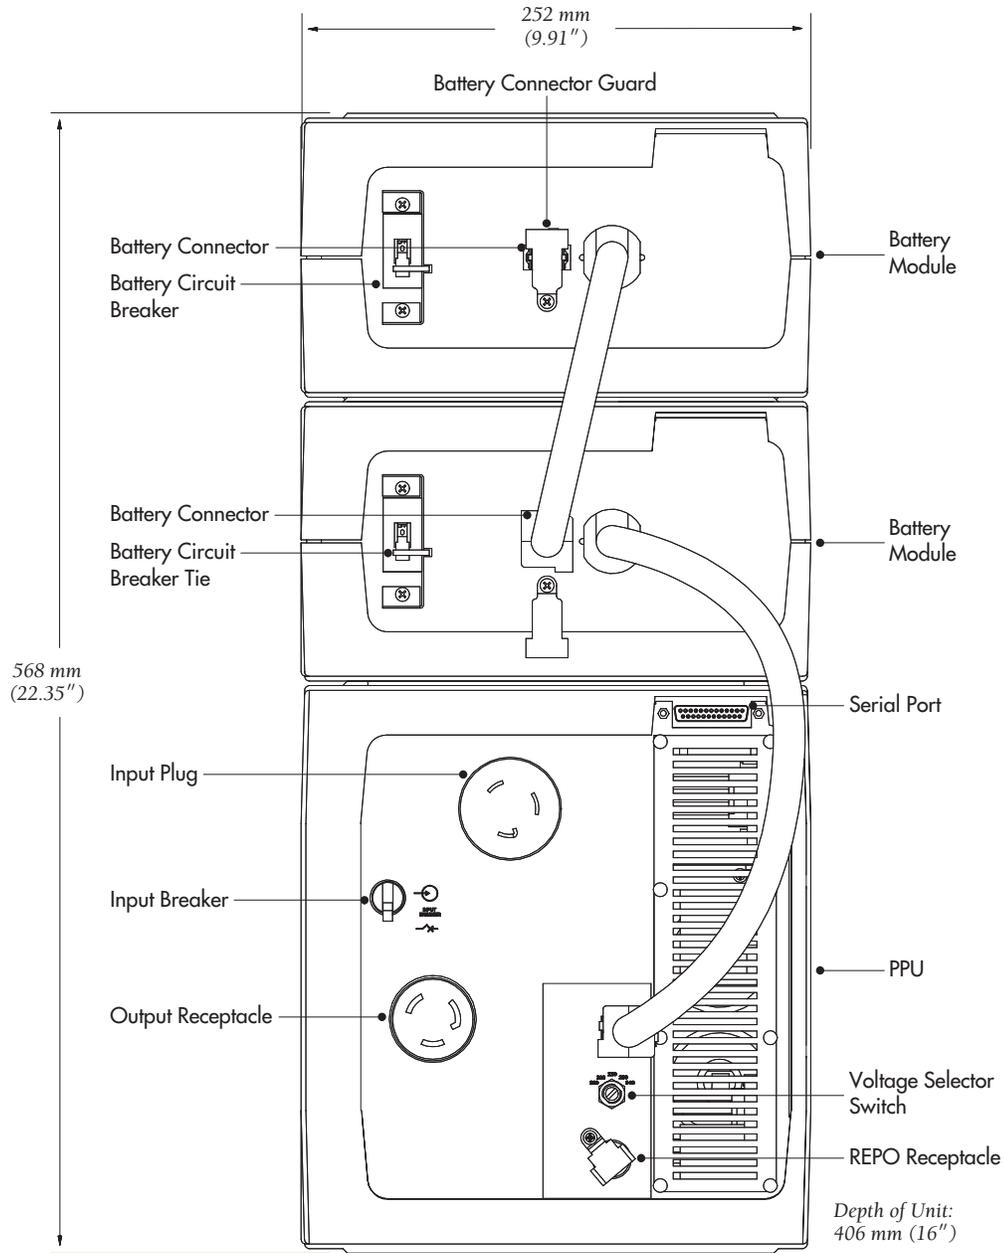
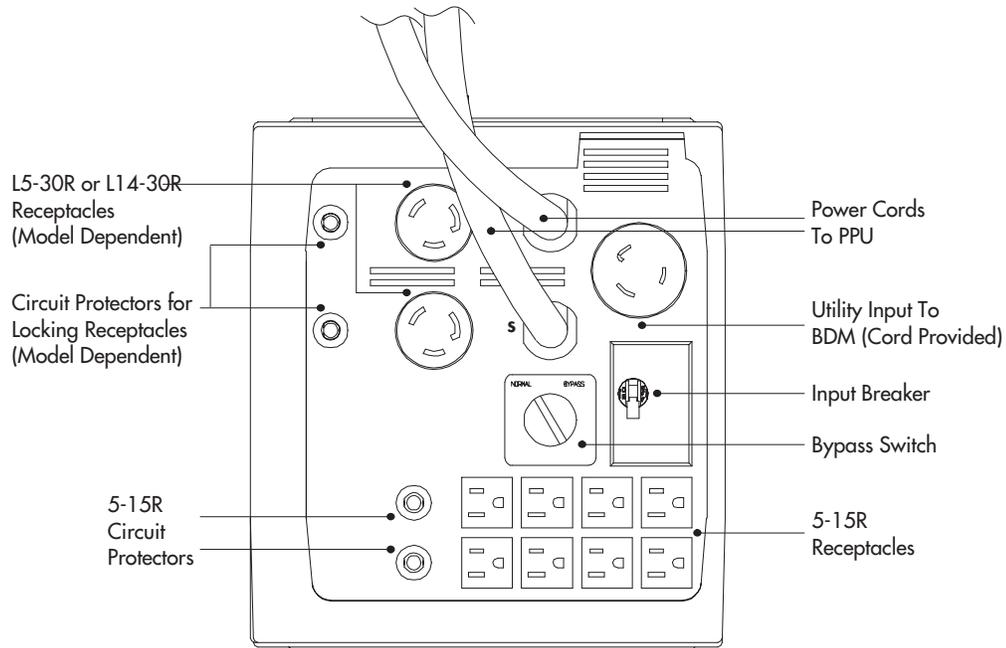

Figure 4. UPS with Battery Modules (Rear View)
Figure 5. BDM Plug/Receptacle Unit Rear Panel Connections
Whenever the units are not energized, make sure the battery circuit breaker on all battery modules is returned to the OFF (O) position (see Figure 4 on page 24).
- 7** Make sure the Bypass switch on the BDM rear panel is in the NORMAL position (see Figure 5).
- 8** Make sure the battery circuit breaker on all battery modules is in the OFF (O) position (see Figure 4).
Note: All battery cords are the same length. See Figure 5 on page 25 and Figure 18 on page 41 for BDM rear panels.
- 11** Plug the input and output power cords of the BDM into the input and output power connectors located on the PPU rear panel (see Figure 4 and Figure 5). Figure 18 on page 41 shows the BDM and PPU rear panel connections.
- 3** Pivot the REPO receptacle guard out of the way, plug the REPO plug/receptacle PPU connector into the REPO receptacle on the PPU rear panel and twist the connector in place (see Figure 4 on page 24).
- 3** Make sure the input breaker on the BDM rear panel is in the OFF (O) position (see Figure 5 on page 25).
- 4** Turn the Bypass switch, located on the BDM rear panel, is in the NORMAL position (see Figure 5 on page 25).
- 8** Switch the battery circuit breaker to the ON (|) position (see Figure 4 on page 24) on each battery module connected to the PPU.
- 10 Switch the PPU input breaker to the ON (|) position (see Figure 4 on page 24).
- 11 Switch the BDM input breaker to the ON (|) position (see Figure 5 on page 25).